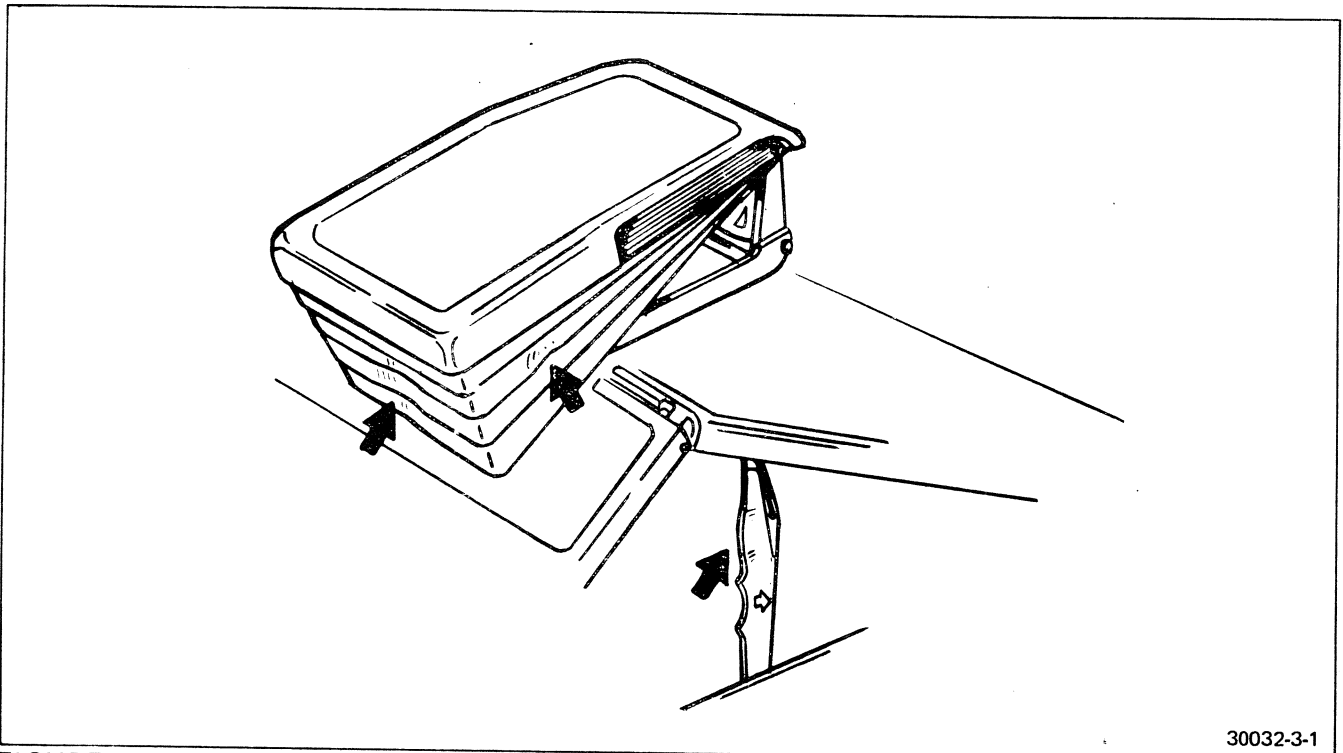

FIGURE 3-1 SHOWING DAMAGED SHADE BLADES/ERECTING LINK
1. Perform a thorough visual inspection. Carefully open the camera, being alert for evidence of binding and/or any unusual sounds from within the camera. Check the shade blade assembly for evidence of distortion particularly if the damage is serious enough to have caused damage to components within the viewfinder system. Check the erecting link for signs of distortion (Figure 3-1). Carefully examine the boot for evidence of any tears, punctures, or abrasions. Examine any marks on the outer surfaces of the camera that would indicate possible interior damage.